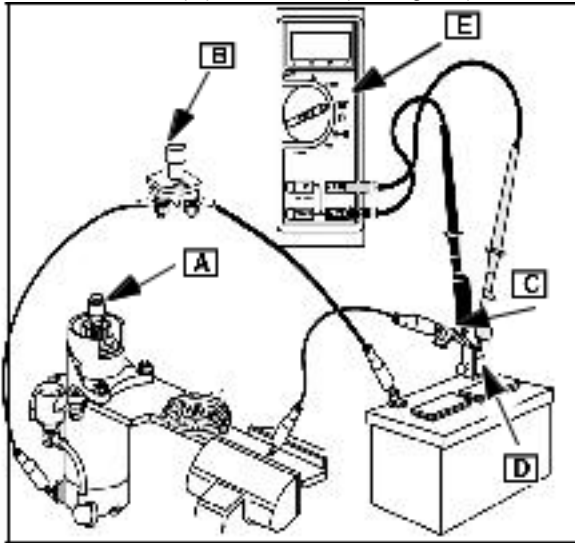

Fig. 60
A fully charged 12 volt battery Fig. 60.
Connect starter motor (A), starter switch (B), DC shunt (C) on negative battery terminal (D) and meter ([E] Fig. 60).